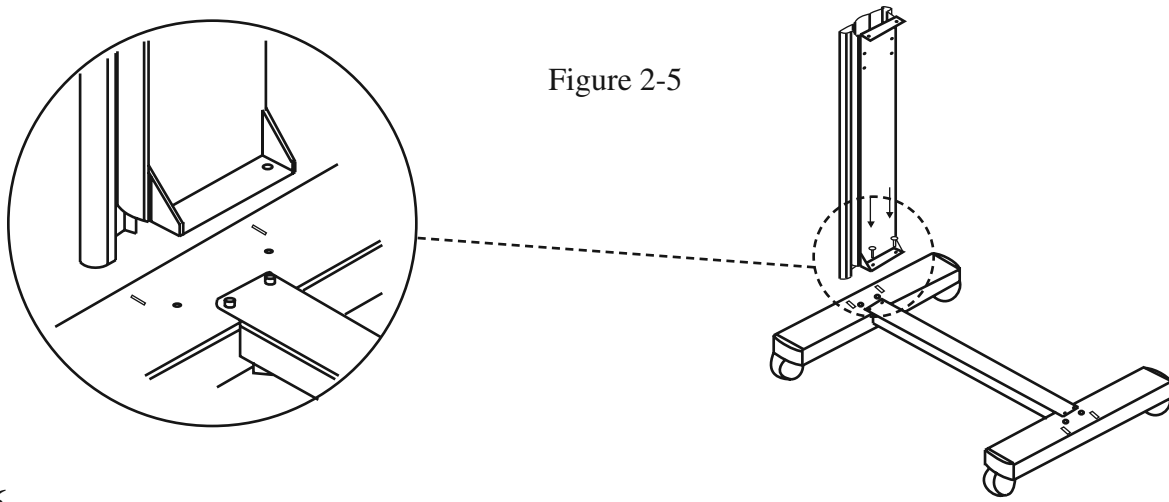

Figure 2-5
- Then connect part **3** and H-shape stand. First, position the extension of part **3** into the squares holes on H-stand. Second, insert the screws and washers into the holes besides the squares then tighten them (Figure 2-5).